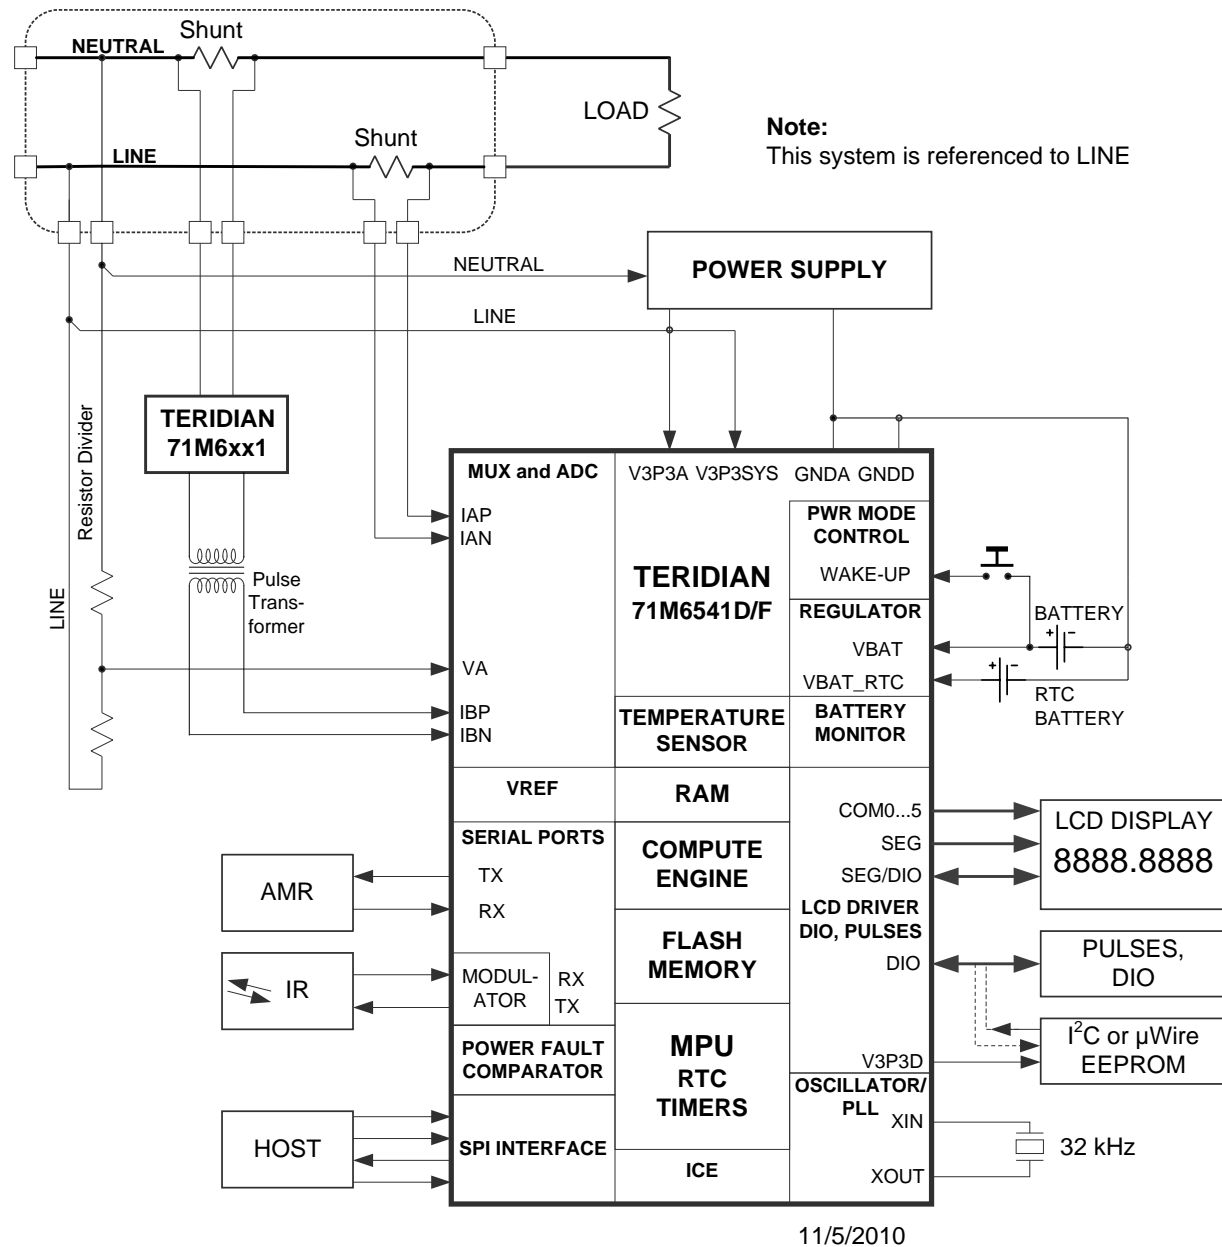
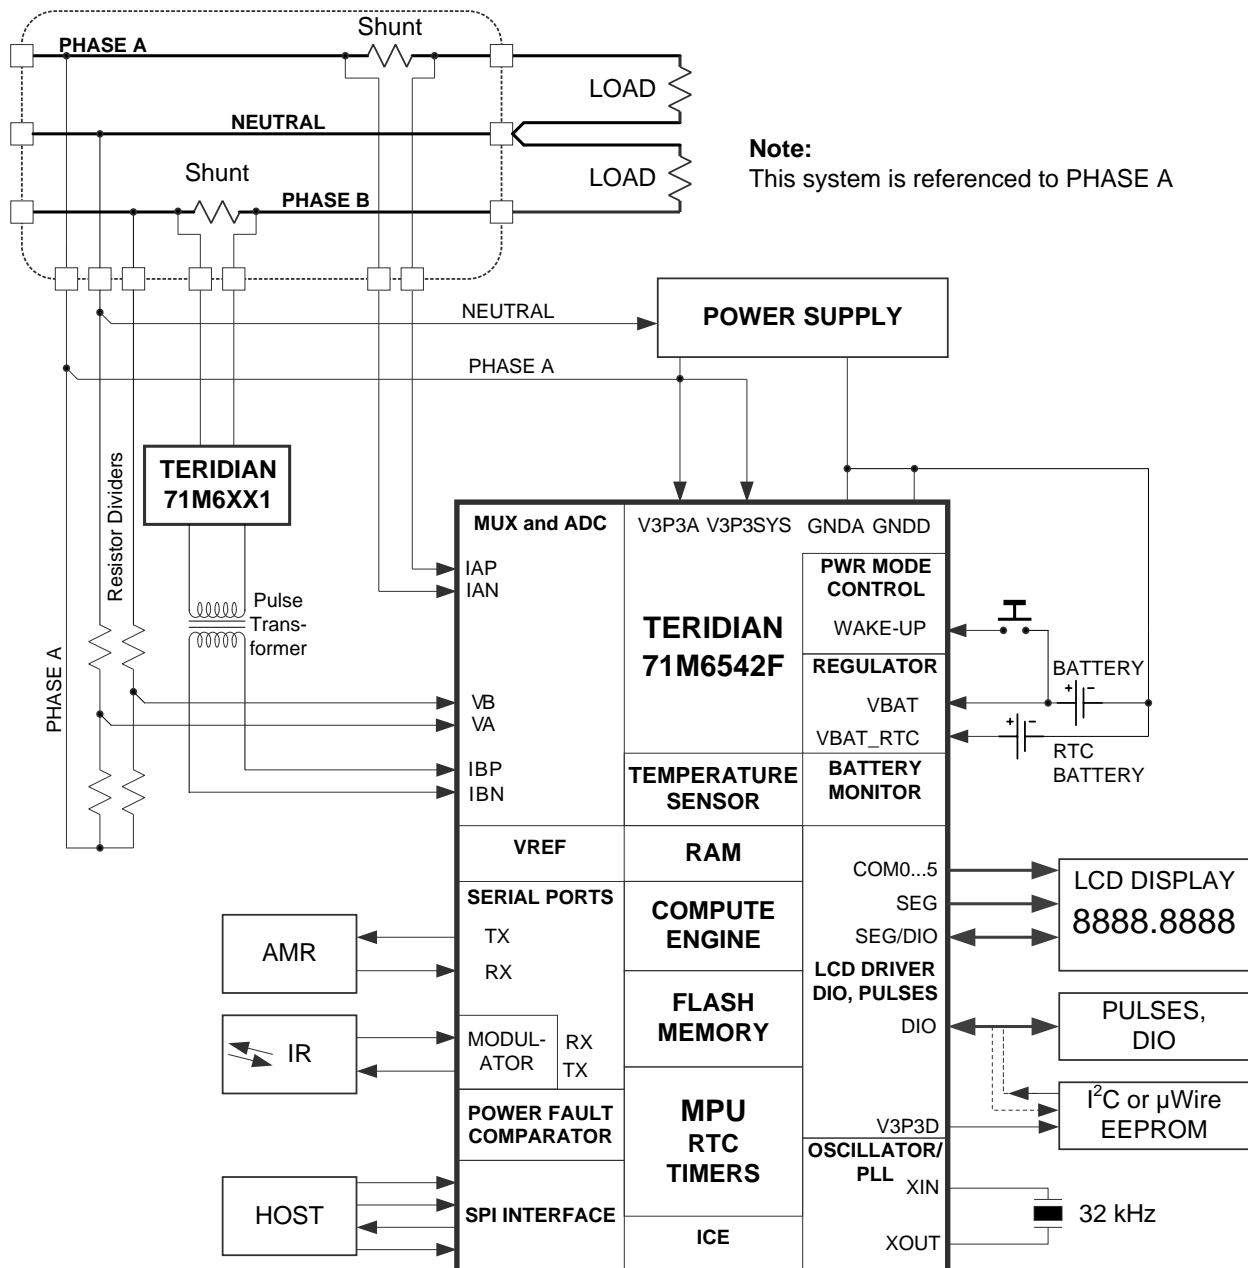

Figure 36: 71M6541D/F with 71M6x01 isolated Sensor
Figure 38: 71M6542F with 71M6x01 Isolated Sensor
Figure 36 shows a typical connection for one isolated and one non-isolated shunt sensor, using the 71M6x01 Isolated Sensor Interface. This configuration implements a single-phase measurement with tamper-detection using the second current sensor. This configuration can also be used to create a split phase meter (e.g., ANSI Form 2S). For best performance, the IAP-IAN current sensor input is configured for differential mode (i.e., $DIFFA_E = 1$, I/O RAM 0x210C[4]). The outputs of the 71M6x01 Isolated Sensor Interface are routed through a pulse transformer, which is connected to the pins IBP-IBN. The IBP-IBN pins must be configured for remote sensor communication (i.e., $RMT_E = 1$, I/O RAM 0x2709[3]). See Figure 3 for the AFE configuration corresponding to Figure 36.
Figure 38 shows a 71M6542F configuration using locally connected current sensors. The IAP-IAN current channel may be directly connected to either a shunt resistor or a CT, while the IBP-IBN channel is connected to a CT and is therefore isolated. This configuration implements a dual-phase measurement utilizing Equation 2. For best performance, both the IAP-IAN and IBP-IBN current sensor inputs are configured for differential mode (i.e., $DIFFA_E = 1$ and $DIFFB_E = 1$, I/O RAM 0x210C[4] and 0x210C[5]). The IBP-IBN input must be configured as an analog differential input disabling the remote sensor interface (i.e., $RMT_E = 0$, I/O RAM 0x2709[3]). See Figure 4 for the AFE configuration corresponding to Figure 38.
Figure 38 shows a typical two-phase connection for the 71M6542F using one isolated and one non-isolated sensor. For best performance, the IAP-IAN current sensor input is configured for differential mode (i.e., $DIFFA_E = 1$, $I/O\ RAM\ 0x210C[4]$). The 71M6x01 Isolated Sensor Interface is used to isolate phase B. The outputs of the 71M6x01 Isolated Sensor Interface are routed through a pulse transformer, which is connected to the pins IBP-IBN. The IBP-IBN pins must be configured for remote sensor communication (i.e., $RMT_E = 1$, $I/O\ RAM\ 0x2709[3]$). See Figure 5 for the AFE configuration corresponding to Figure 38.
This section discusses metrology temperature compensation for the meter designs where current shunt sensors are used in conjunction with Teridian's 71M6x01 isolated sensors, as shown in Figure 36 and Figure 38.
Referring to Figure 36 and Figure 38, the VA voltage sensor is available in both the 71M6541D/F and 71M6542F and is directly connected to the 71M654x. The VB voltage sensor is available only in the 71M6542F and is also directly connected to it. Thus, the precision of these directly connected voltage sensors is affected by VREF in the 71M654x. The 71M654x also has one shunt current sensor (IA) which is connected directly to it, and therefore is also affected by the VREF in the 71M654x. The external current sensor and its corresponding signal conditioning circuit also has a temperature dependency, which also may require compensation, depending on the required accuracy class. Finally, the second current sensor (IB) is isolated by the 71M6x01 and depends on the VREF of the 71M6x01, plus the variation of the corresponding shunt resistance with temperature.